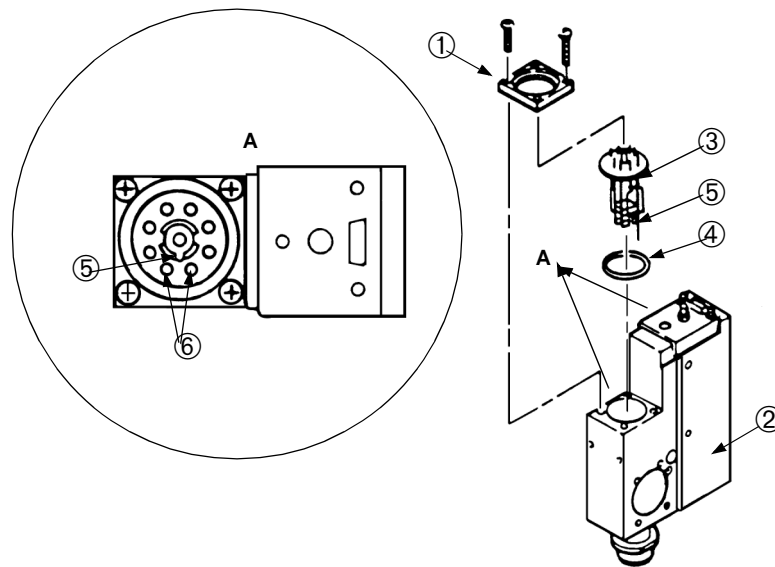

Figure B-5 Ion Source Replacement
If the ion source needs replacement (Figure B-5), replace it during spectrometer tube cleaning. Adjustment is required after replacement is complete. Refer to "Calibration and Sensitivity Checks" on page 3-11 for the adjustment procedures.
2. Remove the four Phillips head screws that hold the flange cap ① onto the body of the spectrometer tube ② (Figure B-5).
3. Firmly but gently separate the flange cap from the ion source ③.
13. Wipe the new O-ring ④ and mating surfaces with a clean, lint-free cloth and place the new ion source in its cavity:
- ❑ Place the locating pin ⑤ so that it falls in the center of the guide hole.
- ❑ Ensure that pins 1 and 8 ⑥ are parallel to the sidewall of the spectrometer tube as shown in Figure B-5 on page B-6, View A.